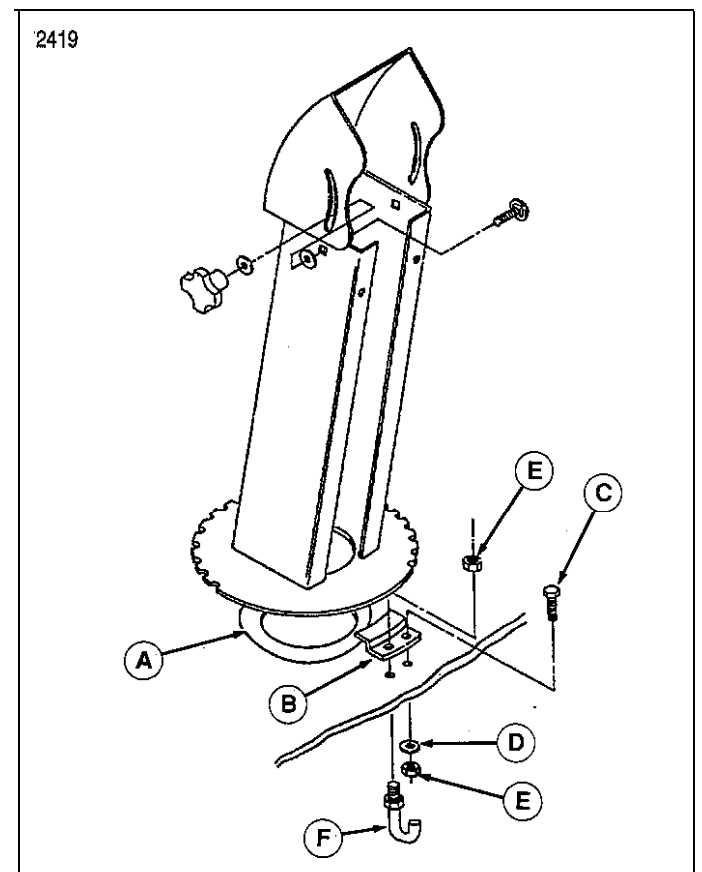

**Figure 3. Installing Lift Rod**
1. Lay lift rod (A, figure 3) next to the tractor so that rear clevis (B) with square weldment (C) is towards the rear. The weldment is positioned to prevent clevis pin (D) from being installed from the right hand side (interference would occur).
2. The lift rod must be inserted from the rear of the front axle, aligning rear clevis (B) with the tractor lift lever (F). Install clevis pin (D) from inside and secure and spring clip (E).